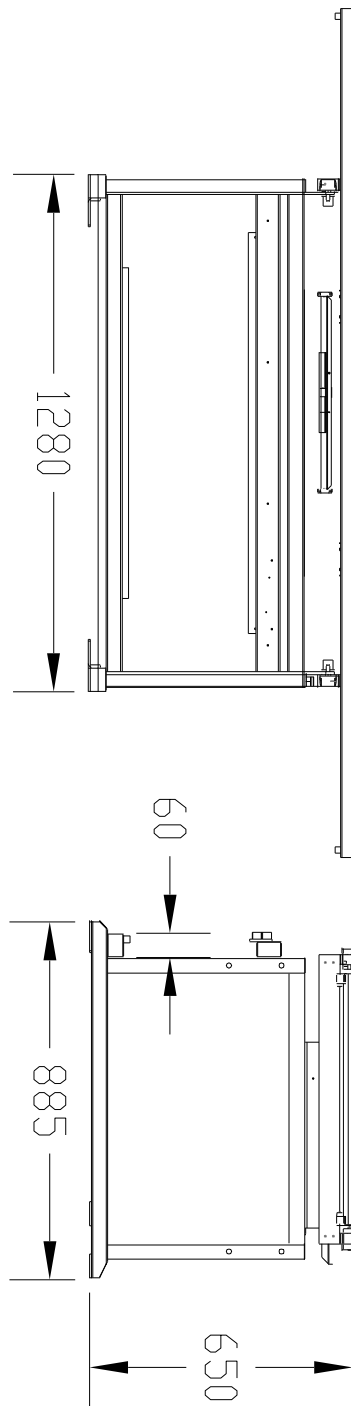

Figure 5-10 Table Dimensions (Basic)
- Radiographic Table - Figure 5-10 through Figure 5-12.